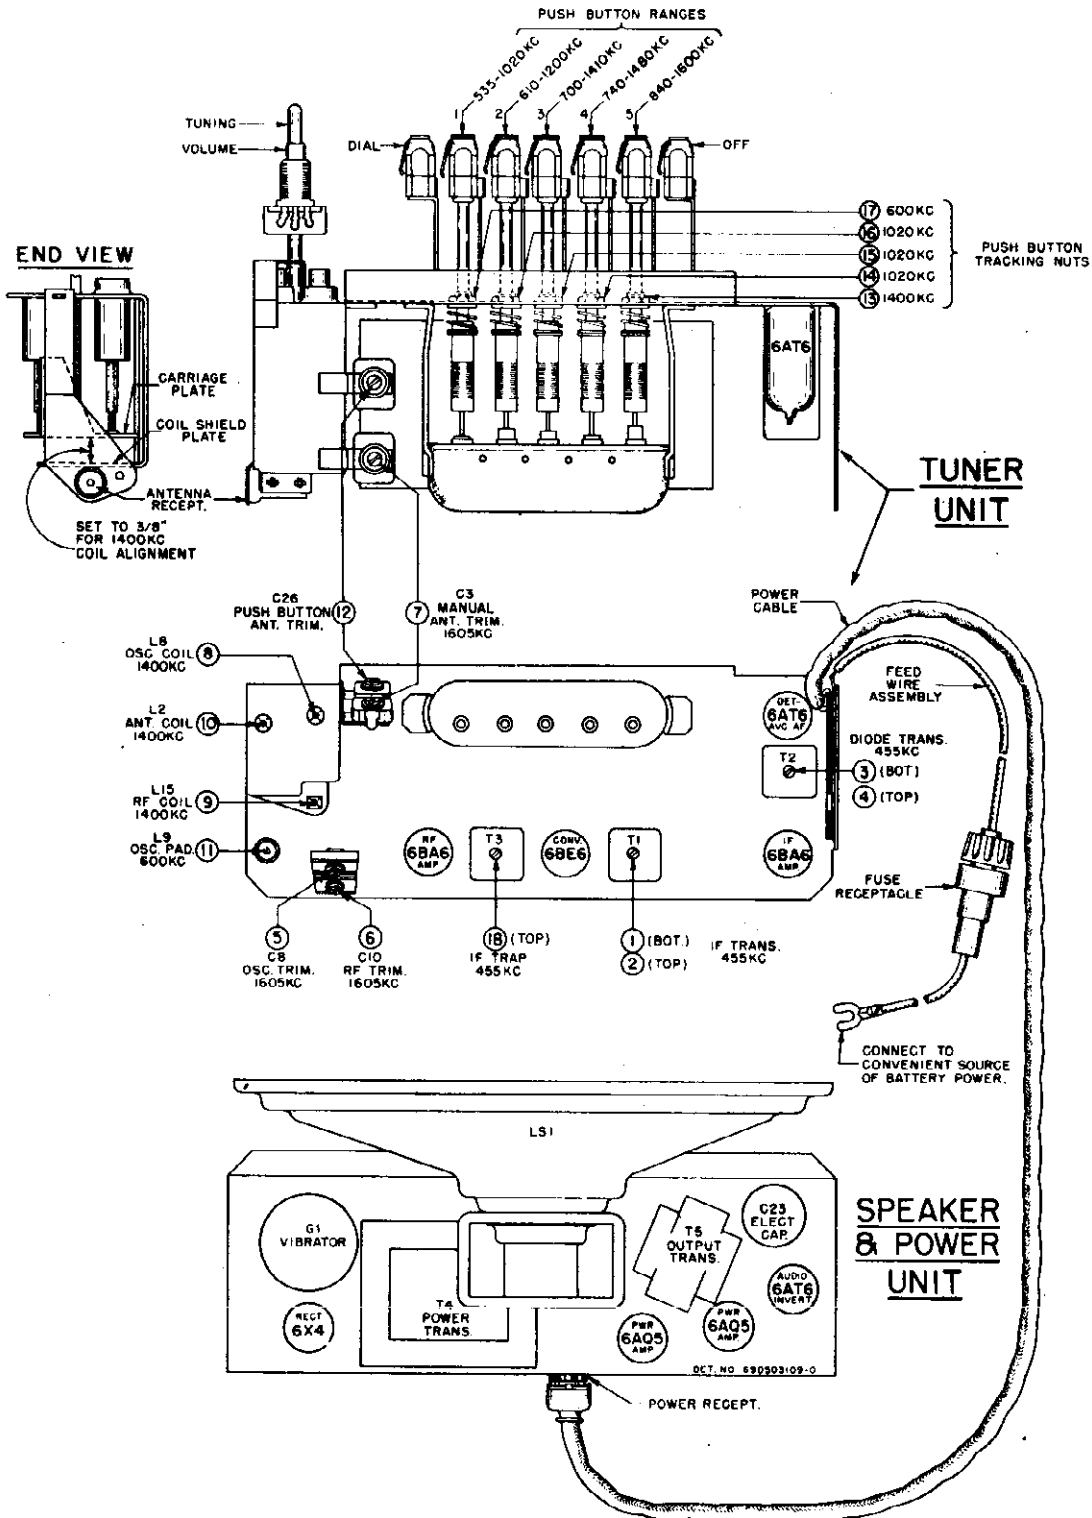

FIGURE 2. TUBE & TRIMMER LOCATION
3. Push in DIAL button and tune in station selected for No. 1 button, making sure it is within the 535 to 1020 kilocycle range as shown in Figure 2. Select only the most powerful local stations.
IMPORTANT: Check with Figure 2 for frequency range of each button.